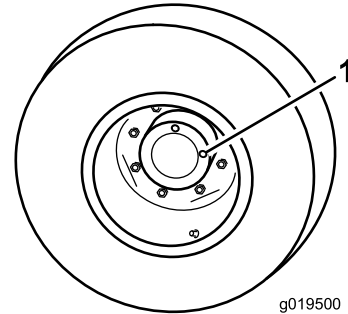

Figure 54
1. With machine on level surface, position the wheel so that 1 check plug is at the 12 o'clock position and the other is at 3 o'clock position (Figure 54).
1. Check/drain plug (2)
2. Remove the plug at the 3 o'clock position (Figure 54).